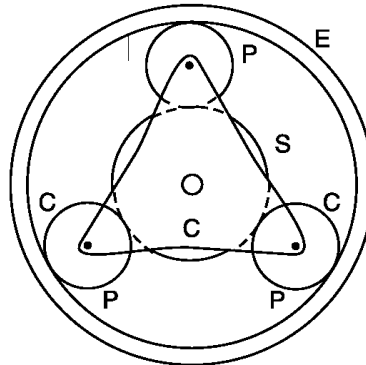

Figure 2
- Q.4 (b)** An epicyclic gear train shown in figure 2 is consist of a sun wheel S, a stationary internal gear E and three identical planet wheels P carried on a star shaped planet carrier C. the size of different toothed wheels are such that planet carrier C rotates at $1/5^{\text{th}}$ of the speed of the sun wheel S. the minimum number of teeth on any wheel is 16. The driving torque on sun wheel is 100 Nm. Determine numbers of teeth on different wheels of the train and torque necessary to keep the internal gear stationary. **07**